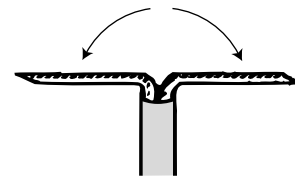

Figure 2.
2. Bend each twist tie backwards in opposite directions to form a T-shape (see Figure 2).